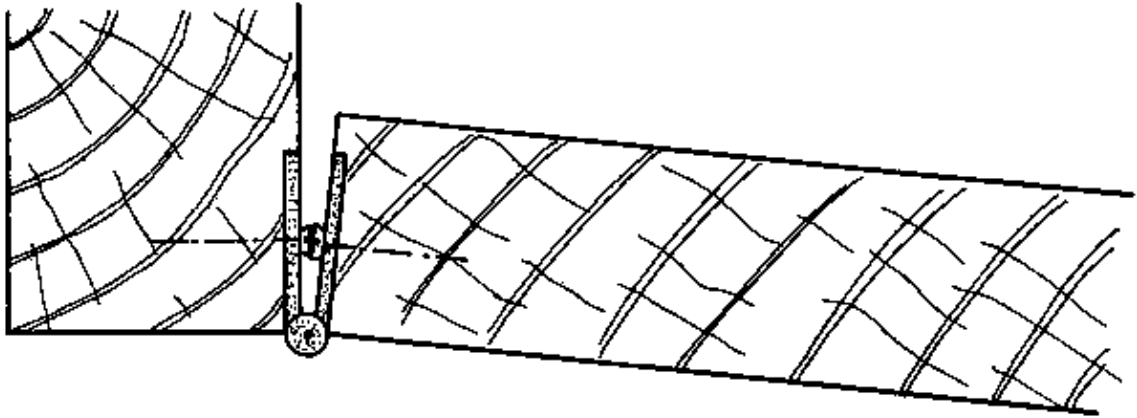

Fig. 4
– When the hinge is screw bound, the heads of the screws obstruct the door so that it can't close properly. This is often the case when the screws are too thick for the hinges, or the heads are too large. The only remedy is to fix the correct screws (Fig. 4).